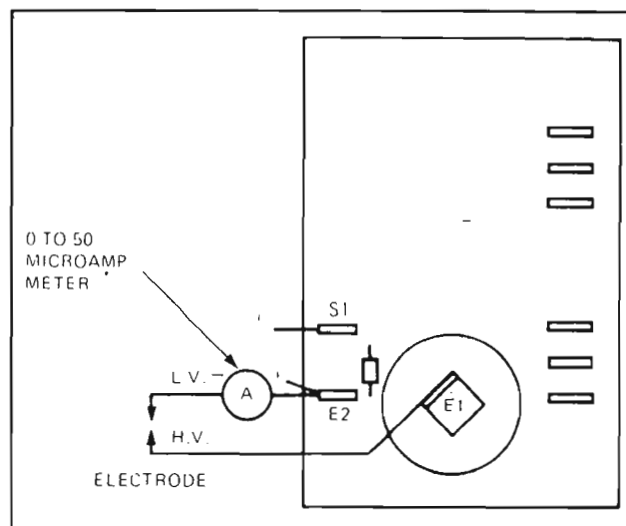

Figure 5-3. Placement of Flame Current Meter
**5.4.3.5 Erratic Operation.** If the system operates properly for a while but randomly shuts down during the duty cycle, or won't operate during "cold" starts, check the flame proving circuit with a dc microamp meter. Refer to Figure 5-3 and proceed as follows: